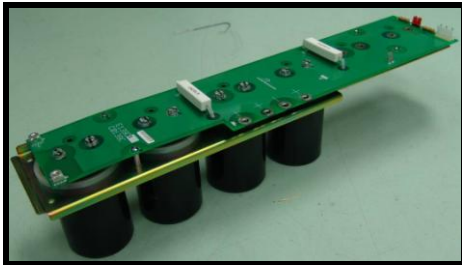

Figure 7.3.33
See figure 7.3.33 while following the next instructions:
- 1) Unscrew the 8 special hexagonal screws M5X10 which fix the capacitors to the electronic board of the bus (see figure 7.3.33).